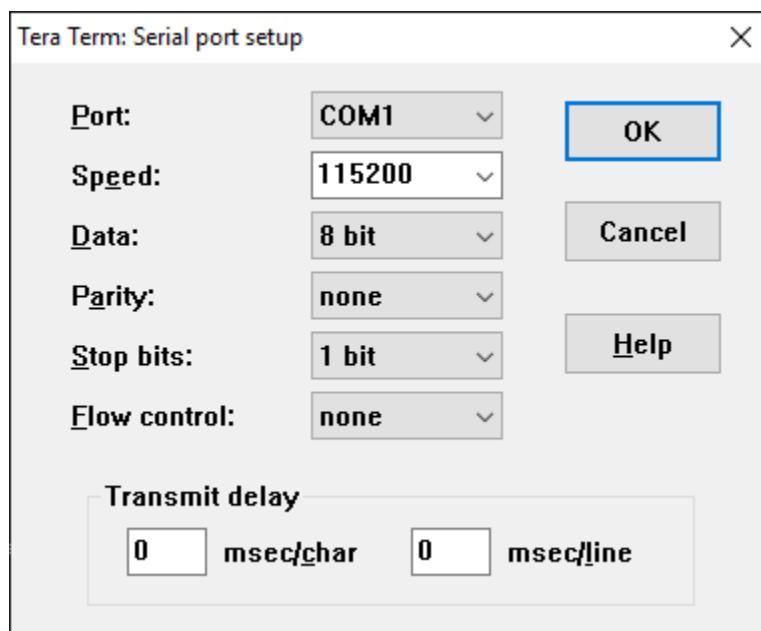

Figure 4: Tera Term Serial Port Settings
| Figure 4: Tera Term Serial Port Settings | 4 |
5. Verify that the serial port settings are correct (see Figure 4 in the previous section).